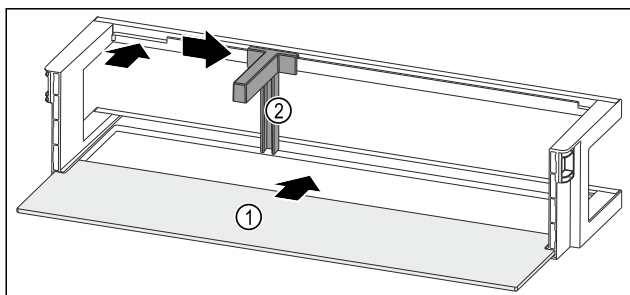

Fig. 262 Door rack with shelf
- Push the shelf Fig. 262 (1) into the side recesses.
- Insert the bottle holder Fig. 262 (2) in the recess.
- Push the bottle holder Fig. 262 (2) to the desired position to the side.